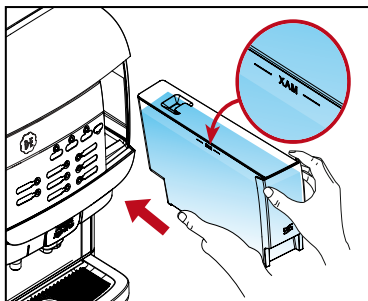

Fig.30
4. Refill the water tank to the MAX level with fresh, clean water and replace it in the dispenser. (See Fig.30)